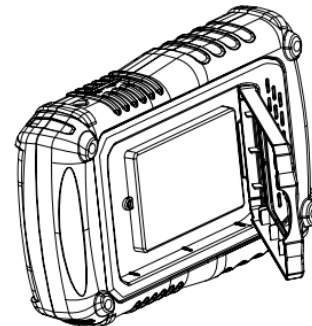

Figure 2
2. Pull out the supporting leg and remove the battery cover. As shown in figure 2.